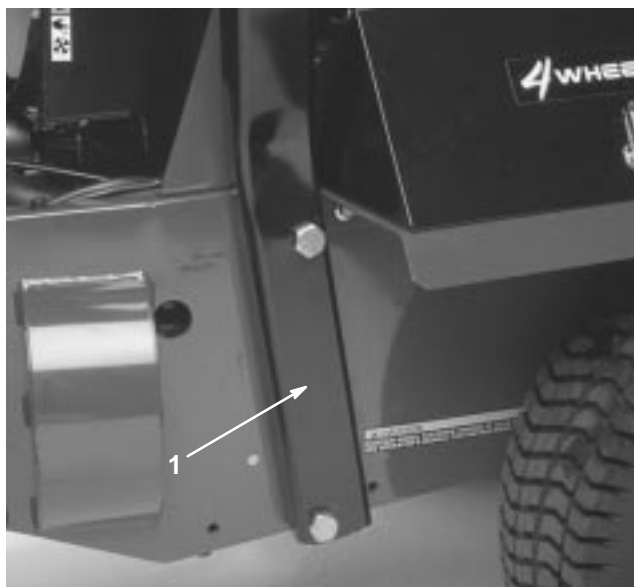

Figure 15
- Lower roll bar onto frame, aligning mounting holes as shown in Figure 15.
- Secure roll bar to frame with 4 bolts (3/4 x 3-1/2 in.), lock washers, and nuts (Fig. 15). Tighten securely.